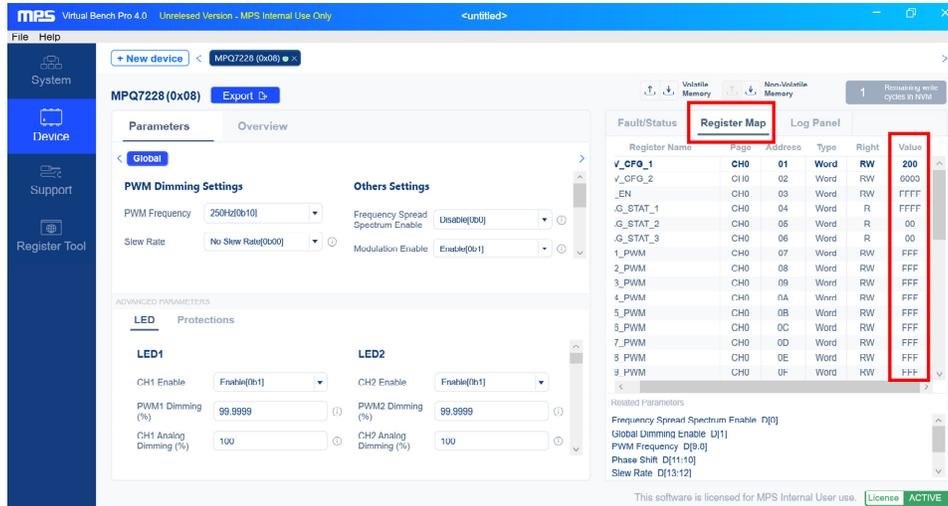

Figure 11: ATE File Register Map in Virtual Bench
- f. After the file is loaded into the VBPro, the Register Map values of the ATE file are listed on the right side of the screen (see Figure 11 on page 10).